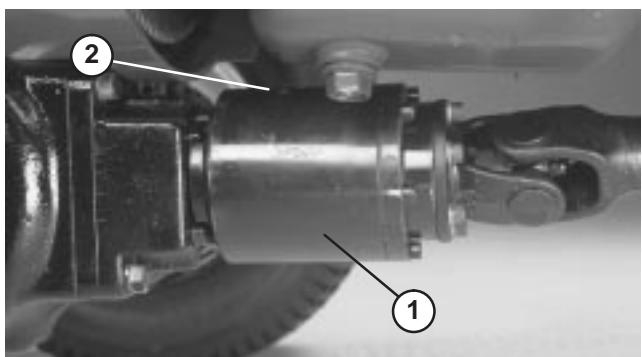

Figure 73
3. Rotate clutch so check plug is positioned downward (Fig. 73).